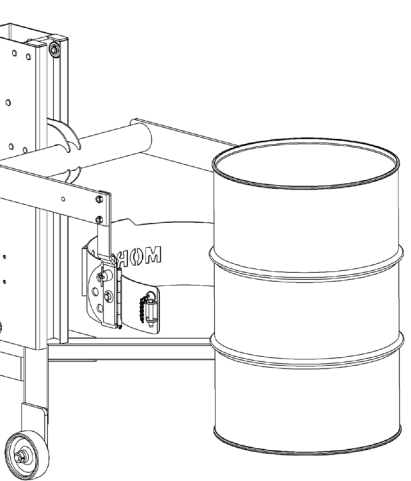

Figure 4.1
1. Roll drum lifter to drum. Steer unit so drum holder meets middle of drum (Figure 4.1). Operate hydraulics as necessary. Swing both hinged bands to the open position. Roll the unit forward and push drum holder so that drum holder (saddle) will encircle drum.